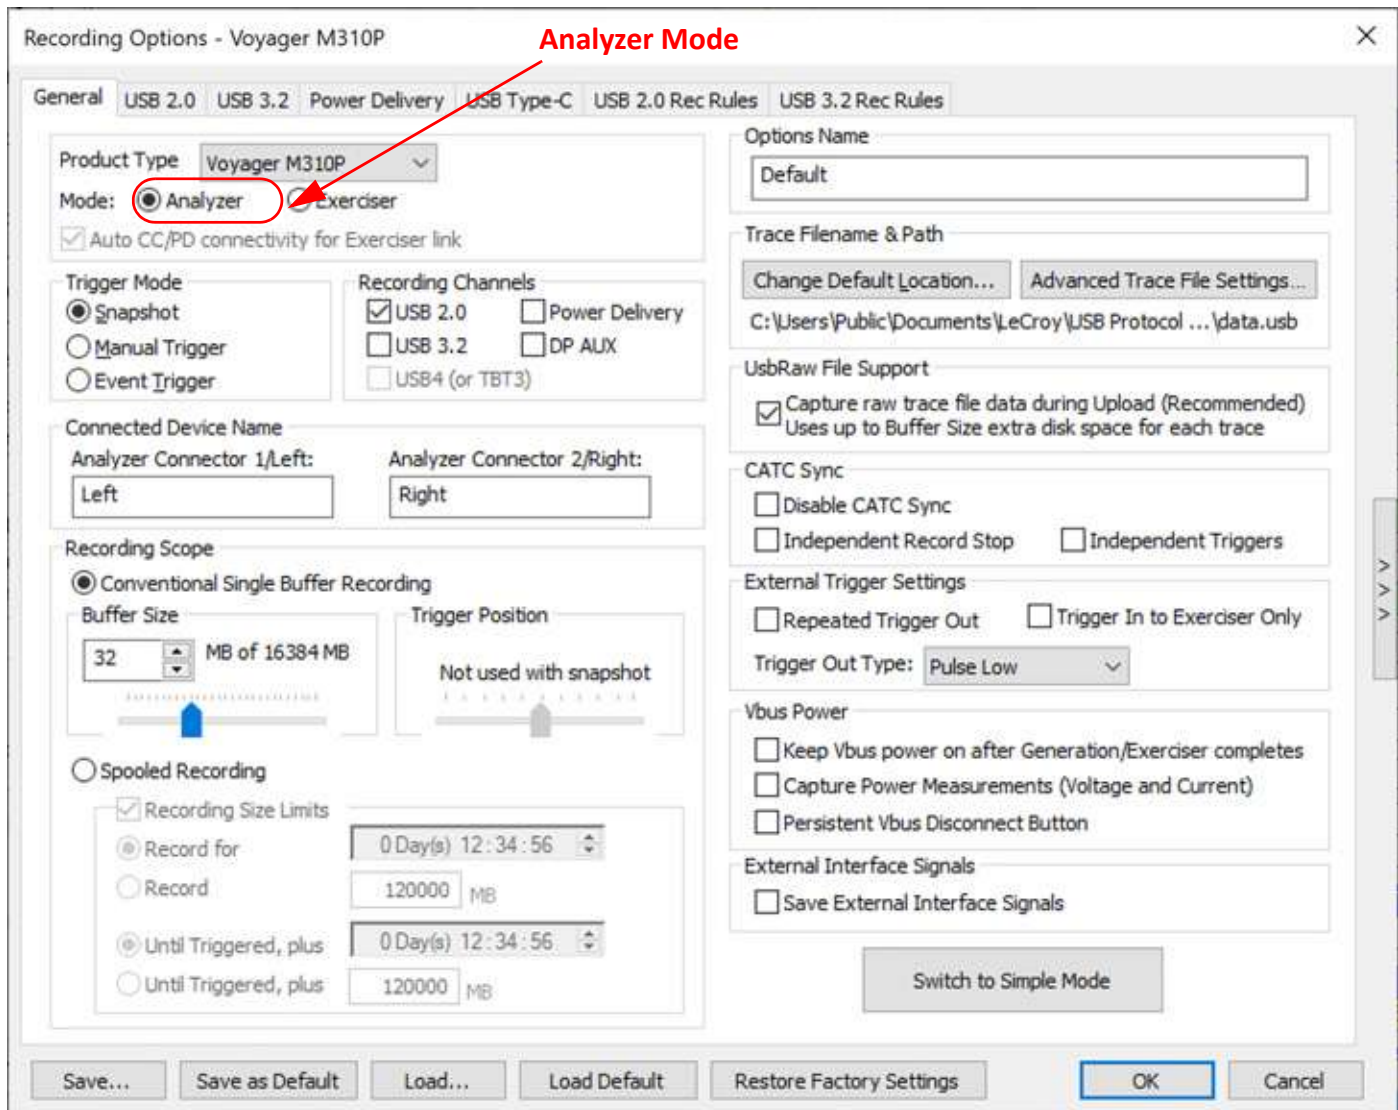

Figure 5.27: Voyager M310P: Advanced Mode Recording Options (Analyzer)
In Advanced Mode the Voyager M310P analyzer has options for USB2.0, USB3.2, Power Delivery, USB Type-C, USB 2.0 Rec Rules: CH0 and USB3.2 (SS) Rec Rules. See Figure 5.27.